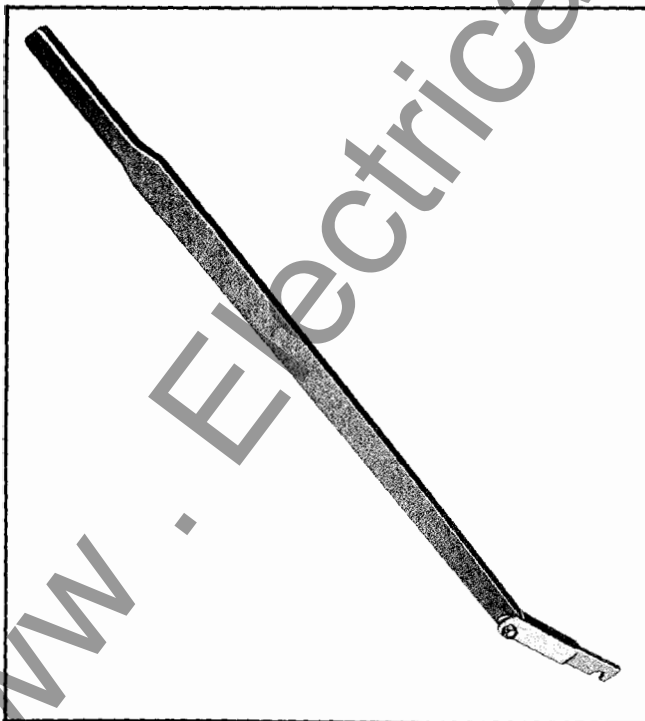

Figure 1-16.
1.4.2 Levering Tool (Figure 1-16, 1-17, 1-18)